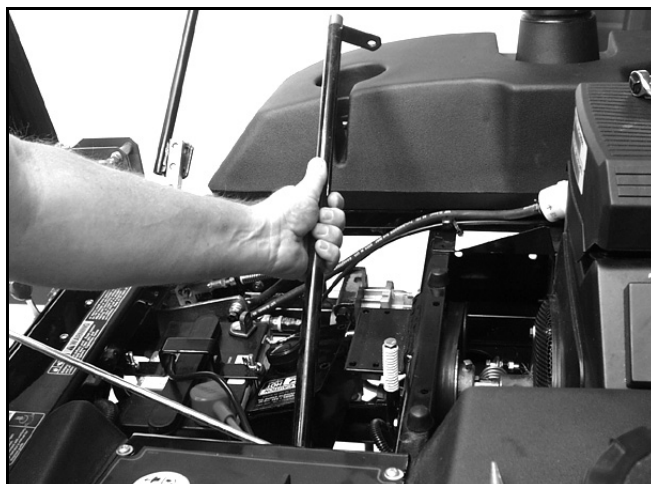

Figure 84
12. To remove the brake lever, first remove the control panel at the console (Figure 84).